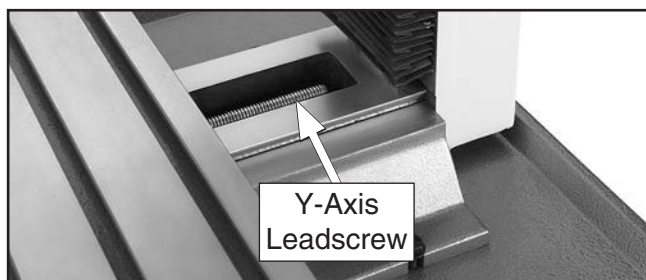

Figure 38. Location of Y-axis leadscrew.
3. Use a 4mm hex wrench to remove rubber way cover, then use mineral spirits and a brush to clean existing grease and debris off of Y-axis leadscrew shown in **Figure 38**. Allow leadscrew to dry.